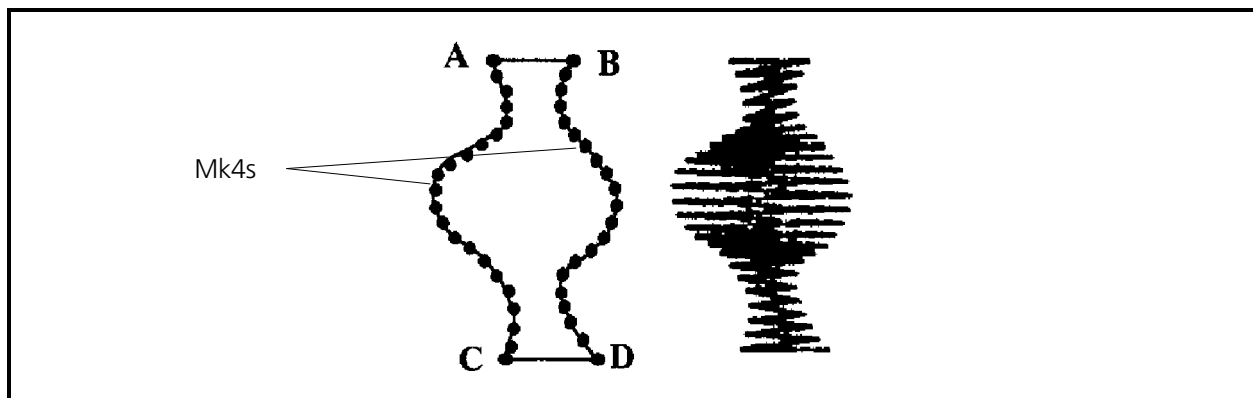

Figure 6-48
Another type of curve smoothing column digitizing is to define a side or sides using multiple Mk4s. The sample in Figure 6-48 illustrates this technique.
1. Refer to the Figure 6-48 and enter a Mk1 at point A and a Mk2 at point B to initiate the column.
The result of the above digitizing will yield a design similar to the one on the left in Figure 6-48.